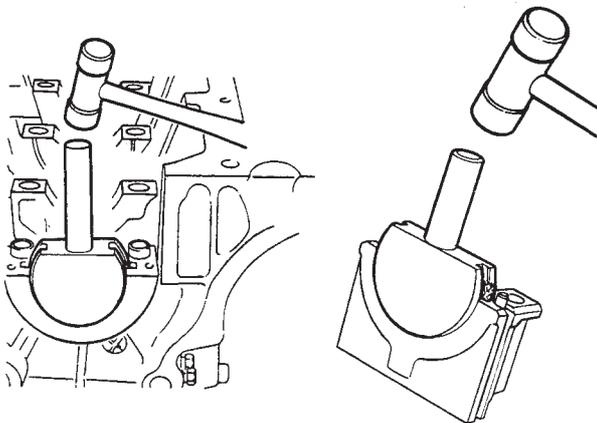

Fig.2 Shaping the seals with tool 0480061
3. Mould the seal halves to shape with tool 0480061 (fig.2).